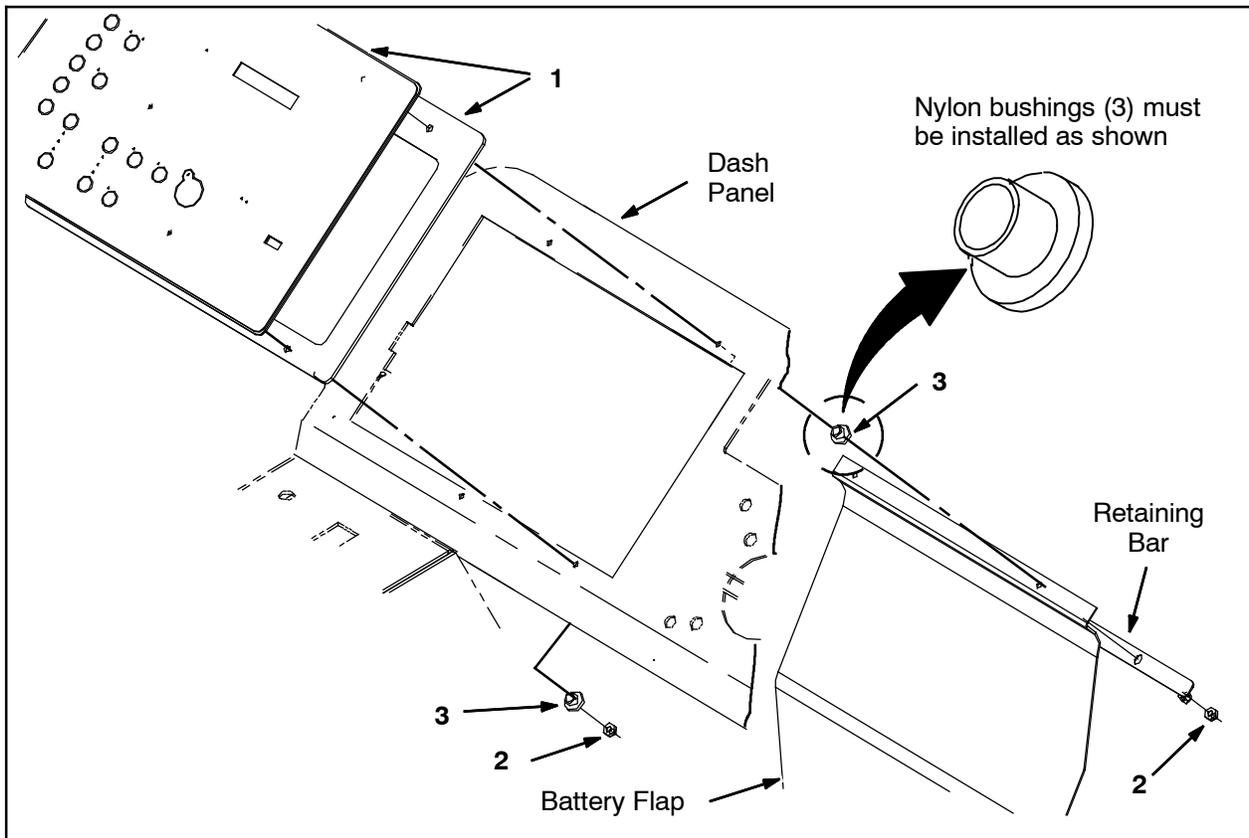

FIG. 2
4. Remove the two hex nuts holding the battery flap and retaining bar to the back of the dash panel. Set the battery flap and retaining bar aside. Mounting hardware has changed, discard existing hex nuts. Refer to Fig. 2.
5. Remove the two hex nuts holding the bottom of the control panel to the back of the dash panel. Mounting hardware has changed, discard existing hex nuts. Refer to Fig. 2.
6. Remove the instrument panel from the dash panel. **Do Not** discard the instrument panel. Send the instrument panel back to Tennant Warranty Department. Refer to Fig. 2.
1. Use four hex nuts (2) and four nylon bushings (3) to install the new control panel (1), battery cover, and retaining bar onto the dash panel. Refer to Fig. 2.
*NOTE: The nylon bushings (3) **must be installed** as shown in Fig. 2 to prevent static electricity from damaging the control panel (1).*
2. Reconnect the main wire harness to the control panel (1).